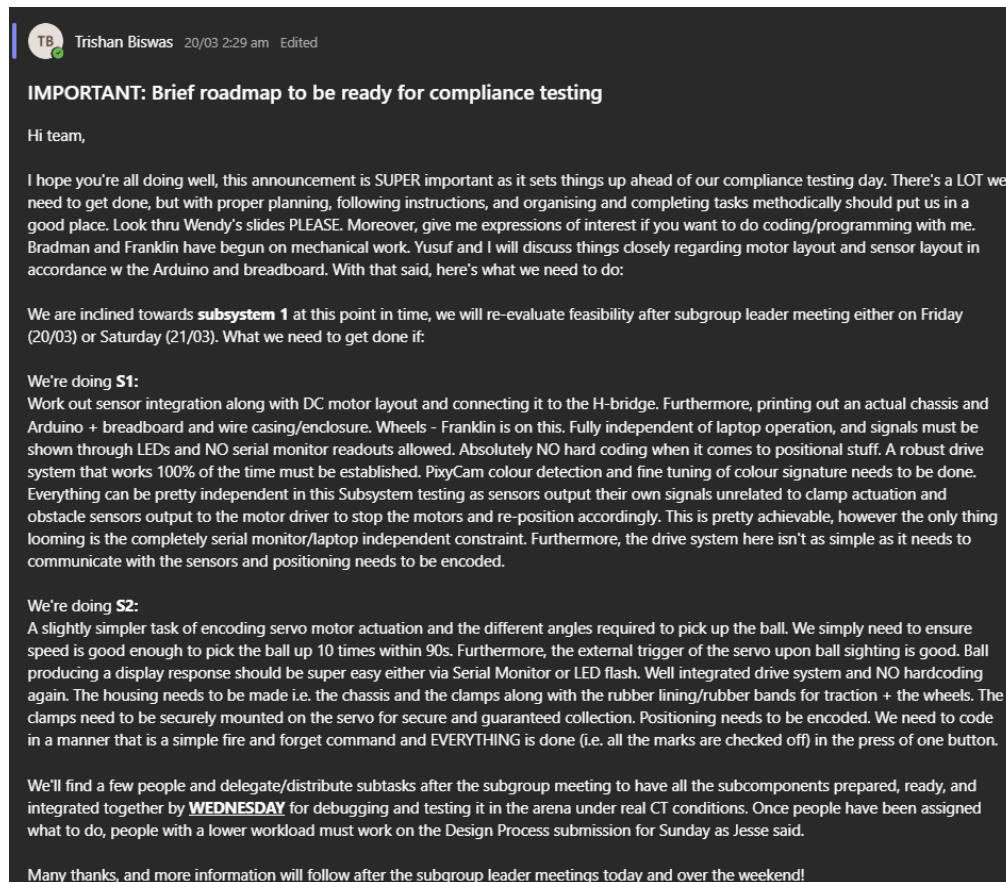

Figure 1: My compliance testing preparation roadmap posted on Teams. **Posted by me**
With the EDP presentation behind us, the team's focus now shifted to preparing for **Compliance Testing (CT)** on Week 7 Monday. On the 16th of March, we had a team meeting where Jesse outlined the priorities heading into Flexi Week. Then on the 17th, **I posted a detailed roadmap** on Microsoft Teams breaking down what we need to get done to be ready for compliance testing. See **Figure 1** for the Teams post.